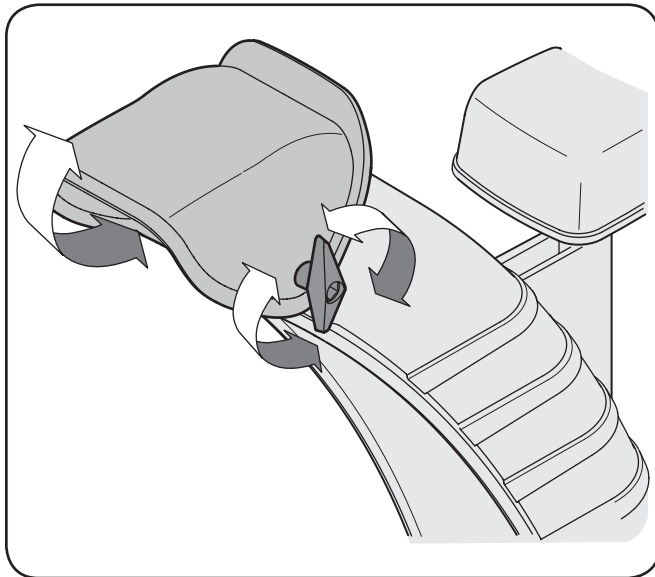

Figure 3-29
2. Pivot the chute upward or downward before retightening the wing knob. See Figure 3-29.